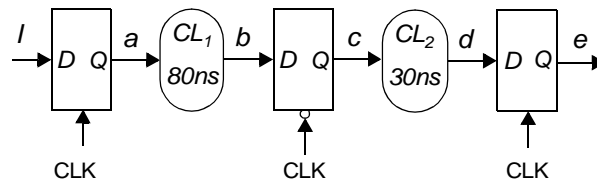

Figure 0.4 Latch Based Pipeline
3. Figure 0.4 shows a latch based pipeline with two combinational logic units.